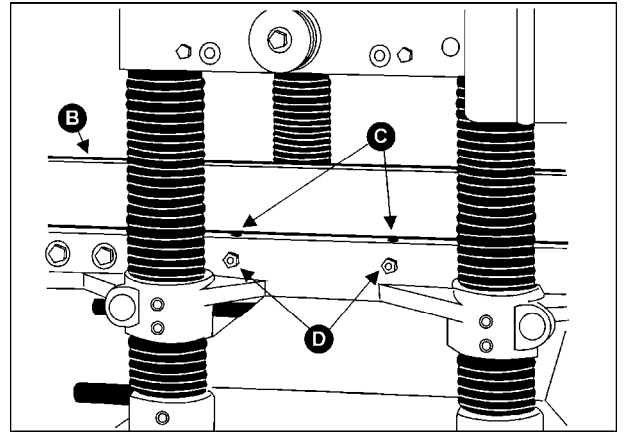

Fig. 14
2. Lay a straight edge (B, Fig. 14) across both rollers.
3. On one side of the table, loosen the screws (C, Fig. 14) with a hex wrench, and turn the
eccentric shafts (D, Fig. 14) to raise or lower the rollers.
4. When the proper height is achieved, tighten screws (C, Fig. 14).